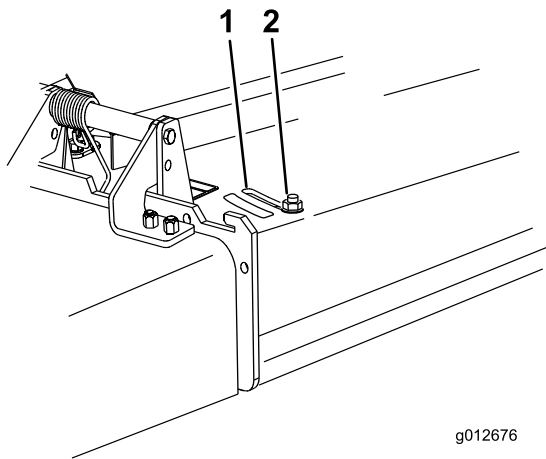

Figure 28
3. To adjust the baffle, loosen the nut (Figure 28).